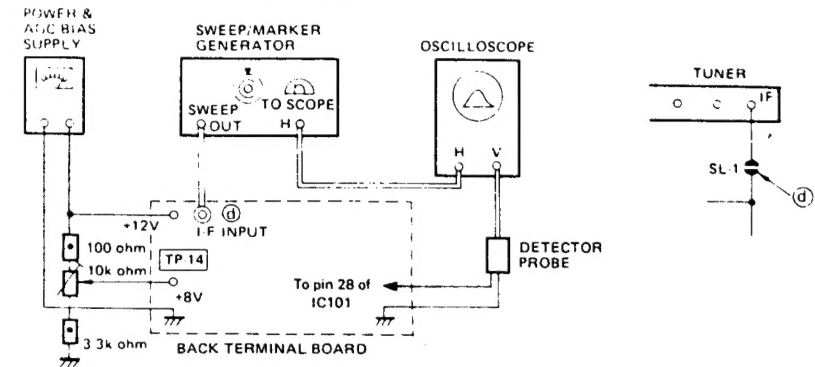

Figure 7. Picture I-F Sweep Alignment
- GENERAL** ..... Refer to Figure 7 for test equipment connection.
1. Disconnect the solder link SL-1 (see Figure 7) on the foil side of the Back Terminal Board.
**SWEEP/MARKER GENERATOR** ..... Connect to the point (d) as shown in Figure 7 on the Back Terminal Board.